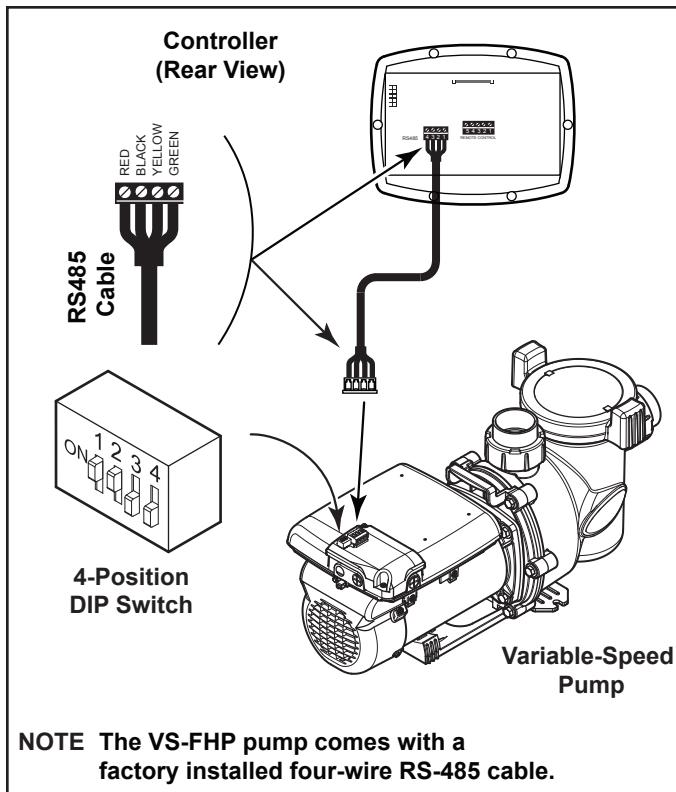

Figure 9. Wiring Variable-Speed Controller (JEP-R) to VS-FHP Pump
4. Attach the four (4) wires in the RS-485 cable to the RS-485 connector. Match the wire colors with the positions on the connector: 1- red, 2- black, 3- yellow, and 4- green. See Figure 9.
6. Slide dip switches 1 and 2 up, so they are in the ON position, and slide switches 3 and 4 down, so they are in the OFF position. See Figure 9.
As shown in Figures 9 and 10, the 4-position dip switch is located at the rear of the VS-FHP pump. This dip switch serves two (2) functions: it selects the pump address, and it determines what type of controller will be used with the pump. The tables below show the dip switch settings.